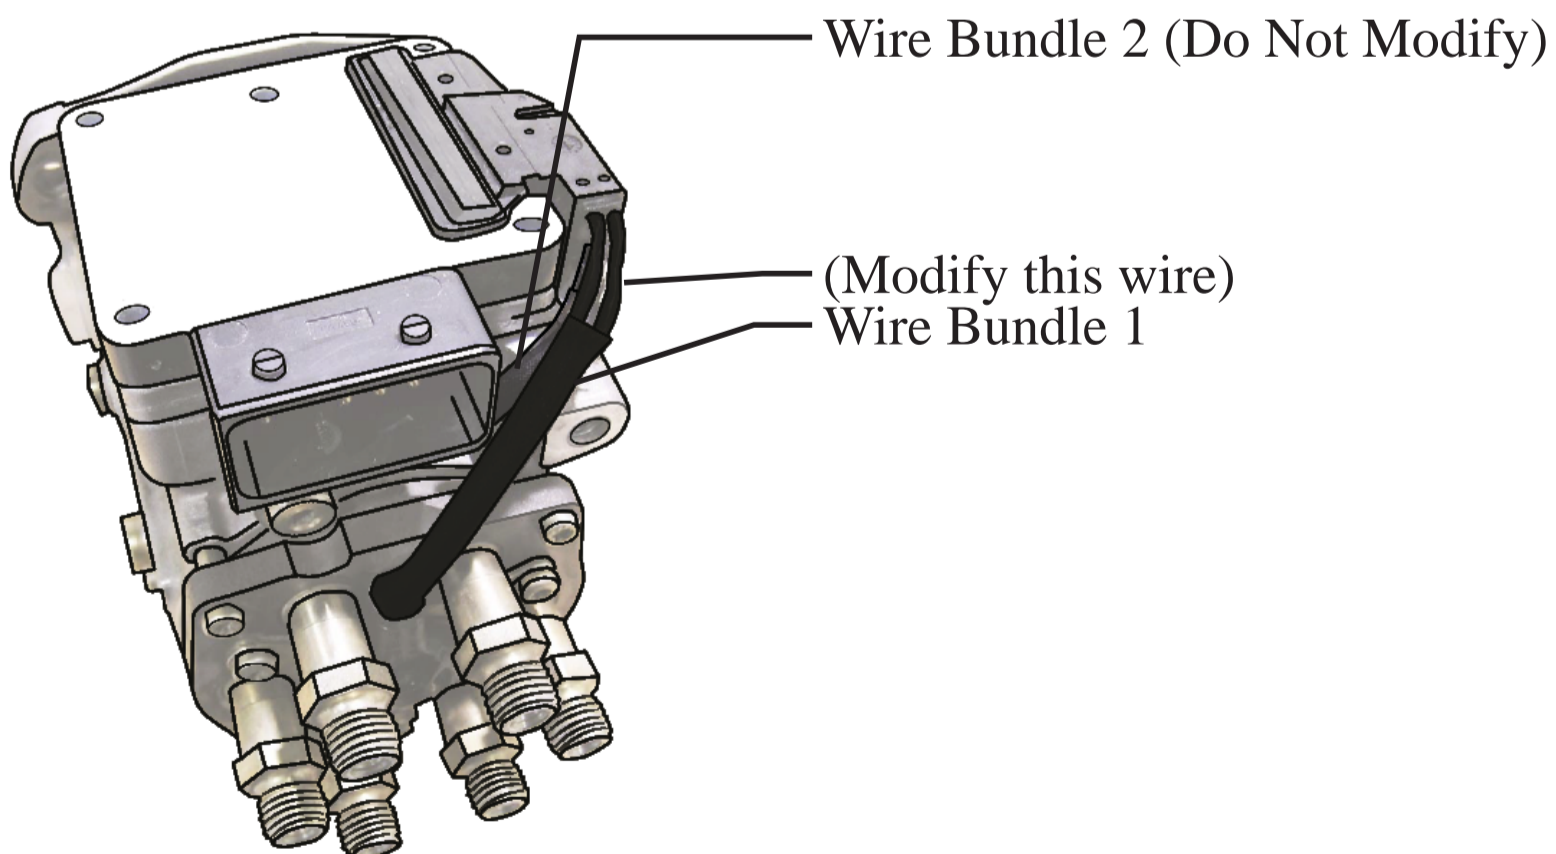

Figure 8 - VP44 Fuel Pump
The following figures 7-9 show how to connect the Juice to the Bosch VP 44 high pressure pump and how and where to attach the Posi-Tap® connection. Figure 8 is a Bosch VP 44 pump that has been removed from a truck. This is the same pump used on Cummins engines for model year trucks from 1998.5 to 2002.
2. Using a sharp knife or razor, carefully slice back the insulation that covers both pump wires contained in wire bundle number one (see figure 8).
3. Locate the TOP injection pump wire identified in Figures 8 & 9.